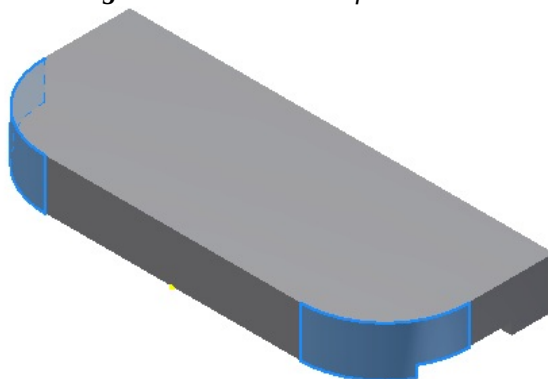

Figure 6-156 Mirrored fillet feature
4. Choose **OK** from the **Mirror** dialog box to create the mirror feature, as shown in Figure 6-156.